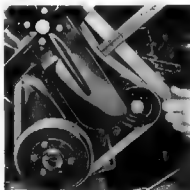

Fig. 41—Fan Belt Adjustment
The fan belt tension should be checked occasionally and, if necessary, adjusted to provide $\frac{3}{4}$ " up or down movement from normal position at a point midway between fan and generator pulleys (fig. 41).
4. Pull the generator away from engine to tighten the belt. Tighten the brace to generator clamp bolt and check for $\frac{3}{4}$ " total up or down movement of belt at a point midway between water pump and generator pulleys (fig. 41). If necessary loosen clamp bolt and move generator slightly to obtain desired belt tension then tighten generator attaching bolts.